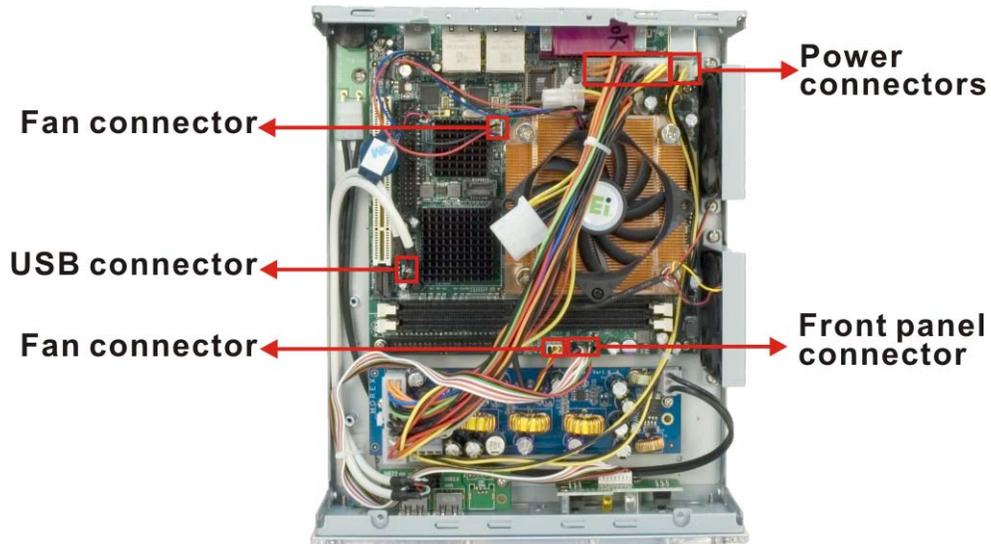

Figure 7-2: Motherboard Connectors
Step 5: Remove the following connector cables (See **Figure 7-2**):
- Step 5:** Reconnect the following cable connectors (**Figure 7-2**):
Step 3: Remove the fan connector cable from the motherboard (**Figure 7-2**).